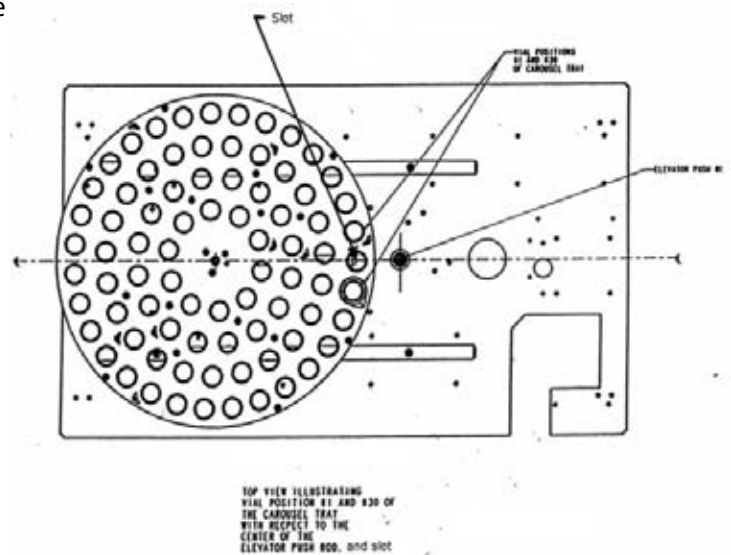

Figure 6-21: Centering Between Position 1 and 30
2. The carousel encoder will seek the electrical home position. Vial position 1 and 30 should be between the center indexing slot. See Figure 6-21. Reconnect the Atomx to the computer via RS232.
6. Using a stubby or short wide flat blade screwdriver inserted into the machined slot of the worm gear within the carousel drive as illustrated in Figure 6-21, rotate the carousel drive manually either clockwise or counterclockwise until vial position 1 is within the center carousel drive slot on top of the chassis, ± 0.062 " (0.16cm).